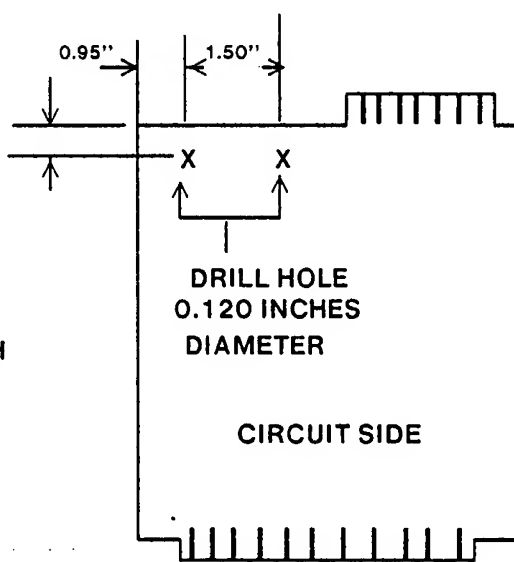

FIG. 3
5.0 DRILL HOLE: a. DRILL HOLE PER FIGURE3.